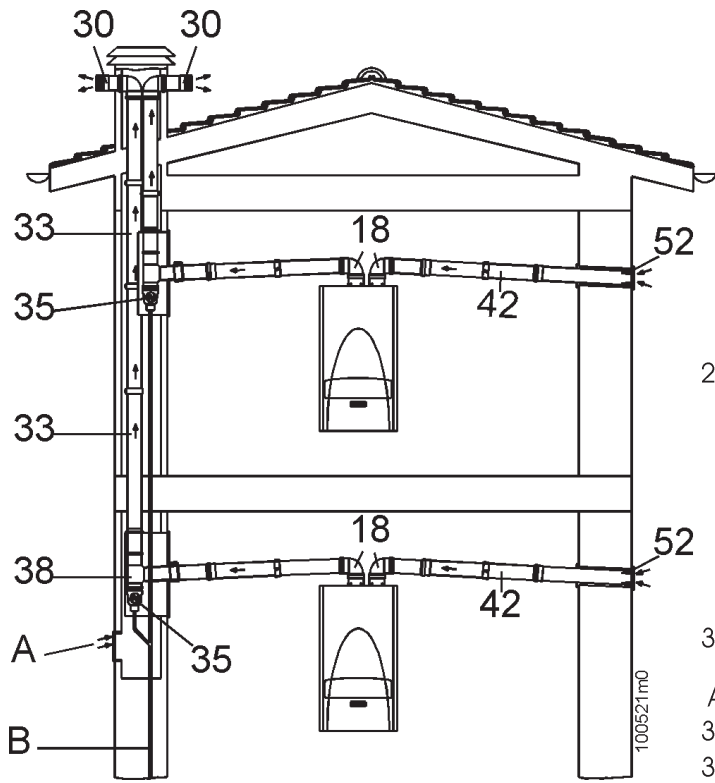

Figure 14 - Installation example
**P/N 62617191. Split vent kit.** This kit is used if you are taking the intake air from a different point than the flue gas discharge point. If you need additional extensions or elbows or other accessories, refer to figures 14, 15 and 16.
The condensation must be emptied in such a way as to avoid the release of flue gases into drains or the environment. For this purpose, use appropriate traps such as the one illustrated in the figures 14, 15, 16, and 23 or similar.
Another technique used to remove the condensation is to simply incline the pipe toward the outside of the building, so that the condensation discharges outside (see fig. 14, 22, 25).